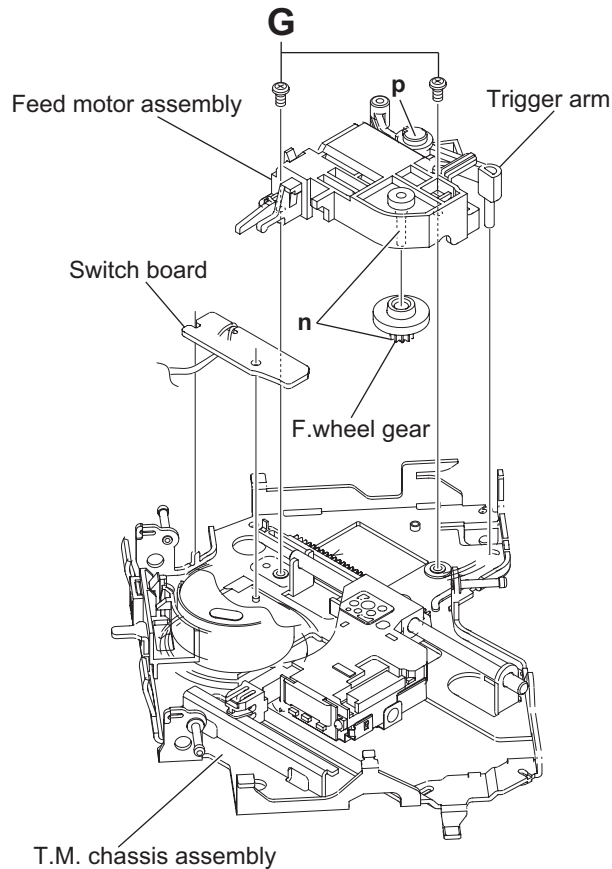

Fig.18
### 3.2.10 Removing the feed motor (See Fig.18 and 19)
- (1) From the bottom side of the T.M chassis assembly, remove the two screws **G** attaching the feed motor assembly. (See Fig.18.)
When attaching the f. wheel gear, trigger arm and feed motor, apply grease to the sections (n, p and q). (See Fig.18 and 19.)
### 3.2.11 Removing the SWITCH BOARD assembly (See Fig.18)